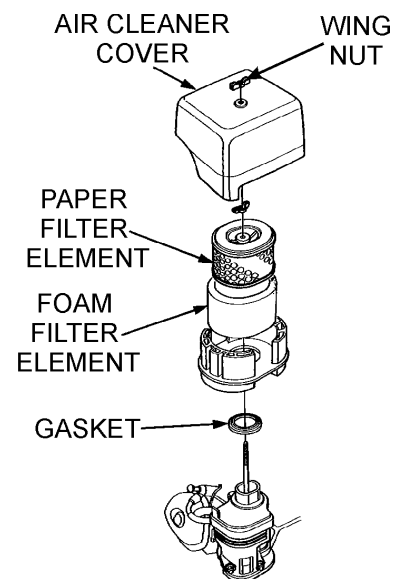

Figure 30. Engine Air Cleaner
- Remove the air cleaner cover and foam filter element as shown in Figure 30.
- Tap the paper filter element (Figure 30) several times on a hard surface to remove dirt, or blow compressed air [not exceeding 30 psi (207 kPa, 2.1 kgf/cm²)] through the filter element from the air cleaner case side. **NEVER** brush off dirt. Brushing will force dirt into the fibers. Replace the paper filter element if it is excessively dirty.